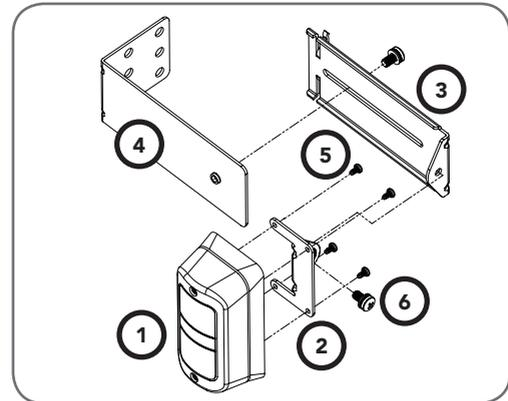

Fig. 6.9
- Attach the mounting bracket (4) to adjustment bracket (3) with the pan head screw (6) (supplied) (Fig 6.9)
- Attach the PE 2000TS Bracket (2) to PE Beam Transmitter (IR200TS-TX) with four taptite screws (M3x5) and attach the other side to adjustment bracket (3) with the pan head screw (6) (supplied).